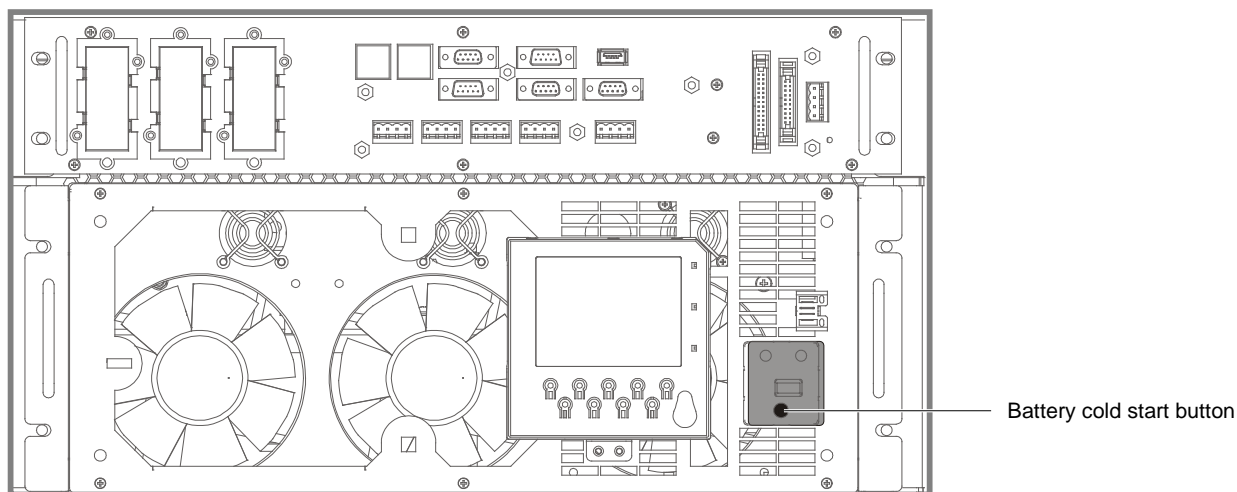

Figure 5-2 Battery cold start button
2. Open the front door, and press the battery cold start button (see Figure 5-2 for its position).